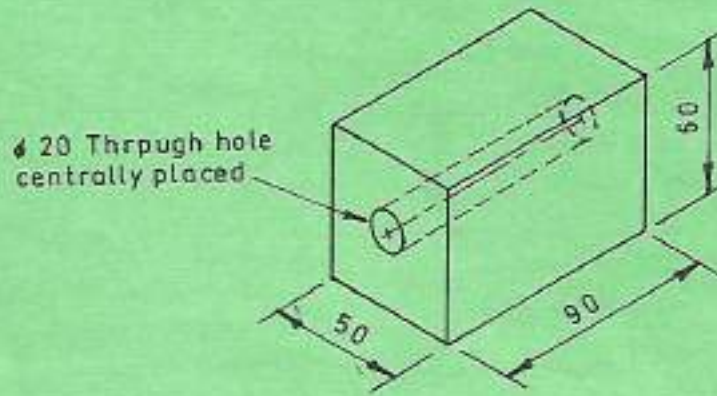

Fig. 2
10. Figure 2 shows a block with a centrally located through hole. Draw an oblique view of the block. (4 marks)